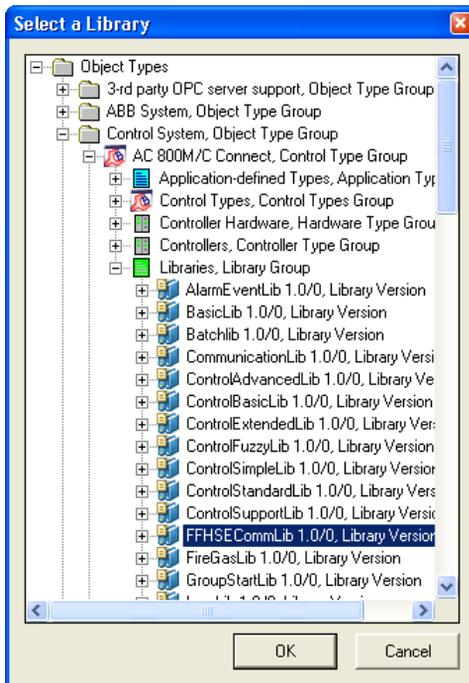

Figure 16. Select Library
5. Select the FFHSECommLib (see Figure 16).